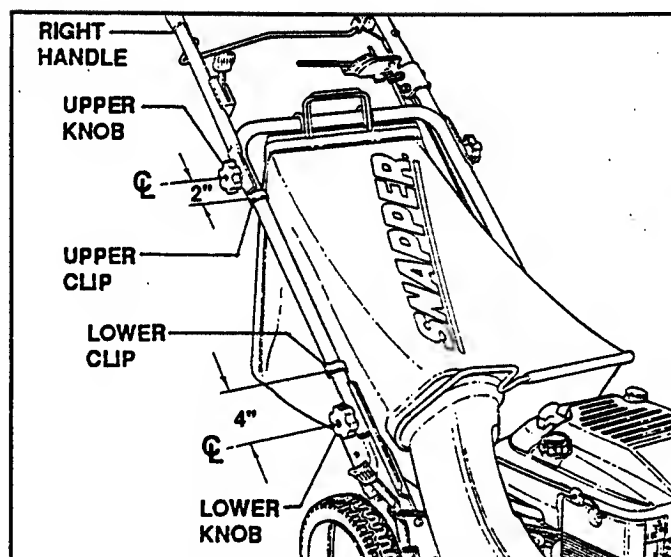

FIGURE 3.9
4. If the wheel drive control fails to return quickly to the "OFF" position when released, check for binding at the cable holdings located on the side of the right handle. The upper clip should be located 2" below the center of the upper knob; the lower clip should be 4" above the center of the lower knob. The cable should slide freely with the clips installed at these locations. See Figure 3.9.